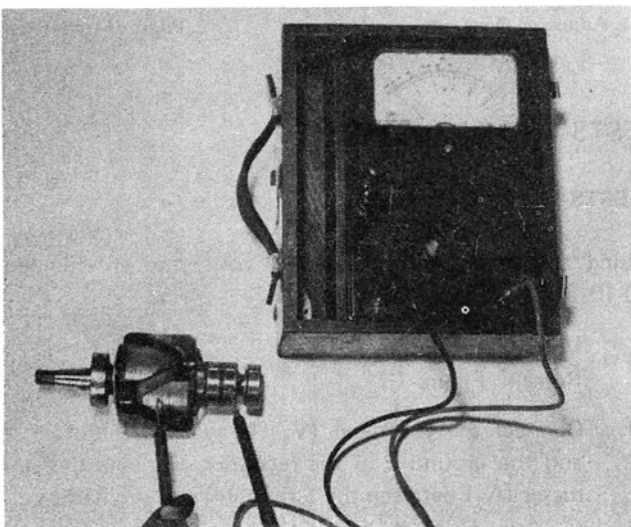

Figure 11
1. Check the insulation of the rotor coil as shown in Figure 11. There should be no conduction between the slip ring and the core or the shaft of the rotor. If conduction exists, the rotor assembly must be replaced.